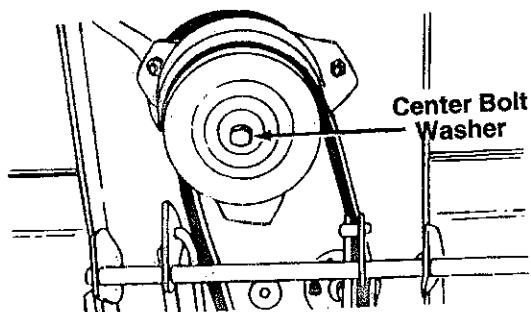

FIGURE 25
5. Remove the electric clutch by removing the center bolt and washer. See figure 25.
- NOTE:** When reassembling, make certain belt is inside the pins. See figure 25.